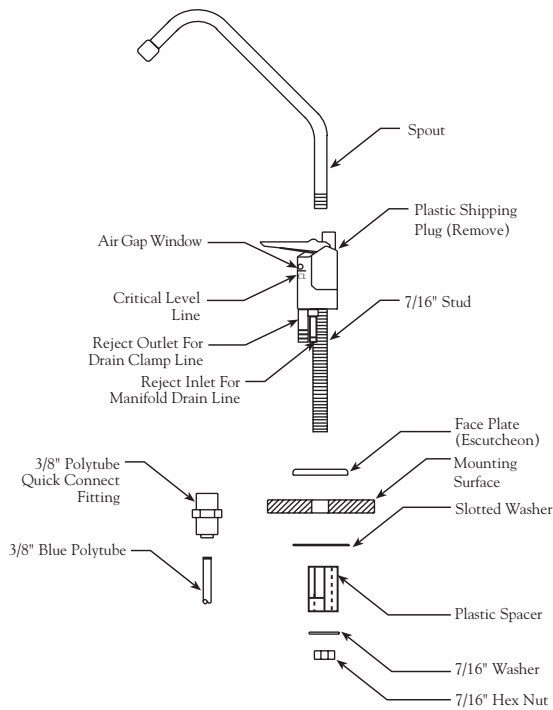

Figure 2
3. Assemble and attach the Faucet (refer to Fig. 2 above).
- Check the Air Gap Window on the Dispensing Faucet to be sure that the drain water is flowing. (Refer to Figure 2, page 6.) The R.O. System is now making water.